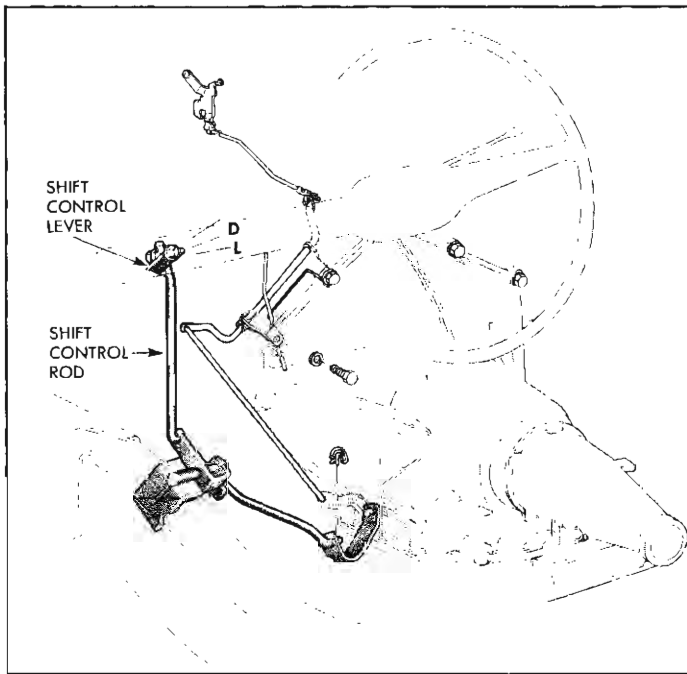

Fig. 3—Shift Linkage Adjustments
3. Place transmission shift control outer lever (fig. 3) in Drive position.
**NOTE:** DRIVE detent in the transmission is the first clockwise detent position from the fully counterclockwise detent or "L" position (see Figure 3).
4. Hold the shift control lever (at lower end of mast jacket), shown in Figure 3, against the DRIVE stop of the range selector lock plate and with control rod through swivel, tighten the clamp nut.